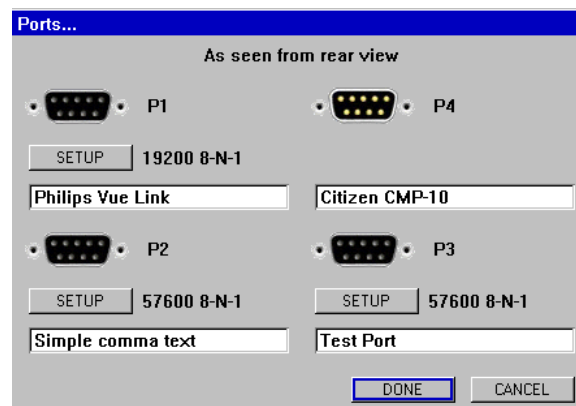

Figure 8: Ports
- 3) Set the desired baud rate (default is 57600). Refer to Figure 8: Ports.
- 5) Configure the (PC) terminal emulation program for the connected port to match the baud rate and other port parameters (data bits, parity, stop bits, flow control) that are specified on the FORE-SIGHT monitor.